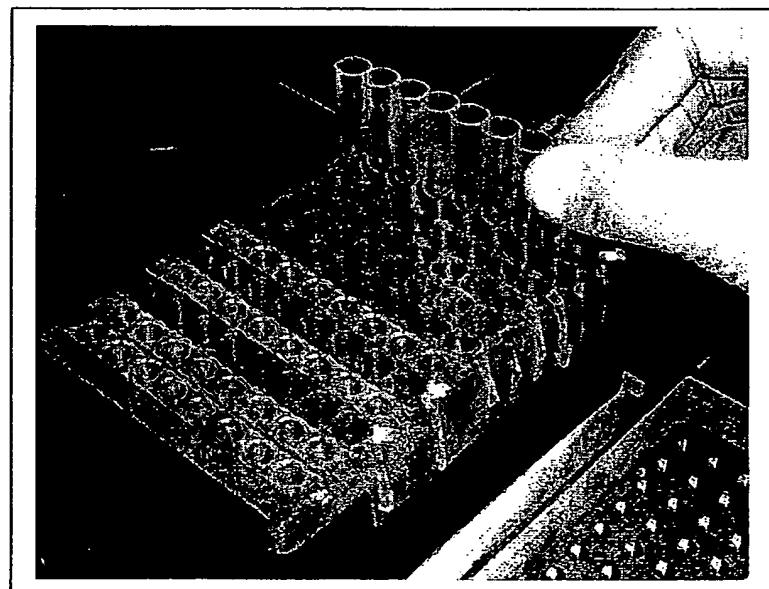

Figure 4.22
4. Load the reagent strip tubes onto the assembled cold block and adaptor. Refer to Figure 4.22.